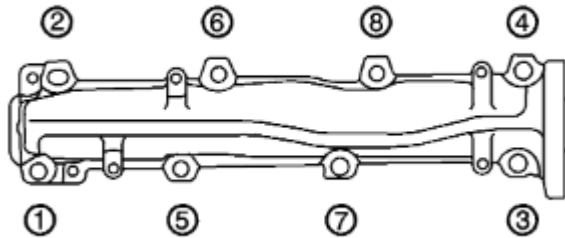

Fig. 24: Driver's side exhaust manifold fasteners
- b) Remove the nut and bolts retaining the driver's side exhaust manifold to the cylinder head in the sequence shown in Fig. 24. Remove the exhaust manifold and gasket.